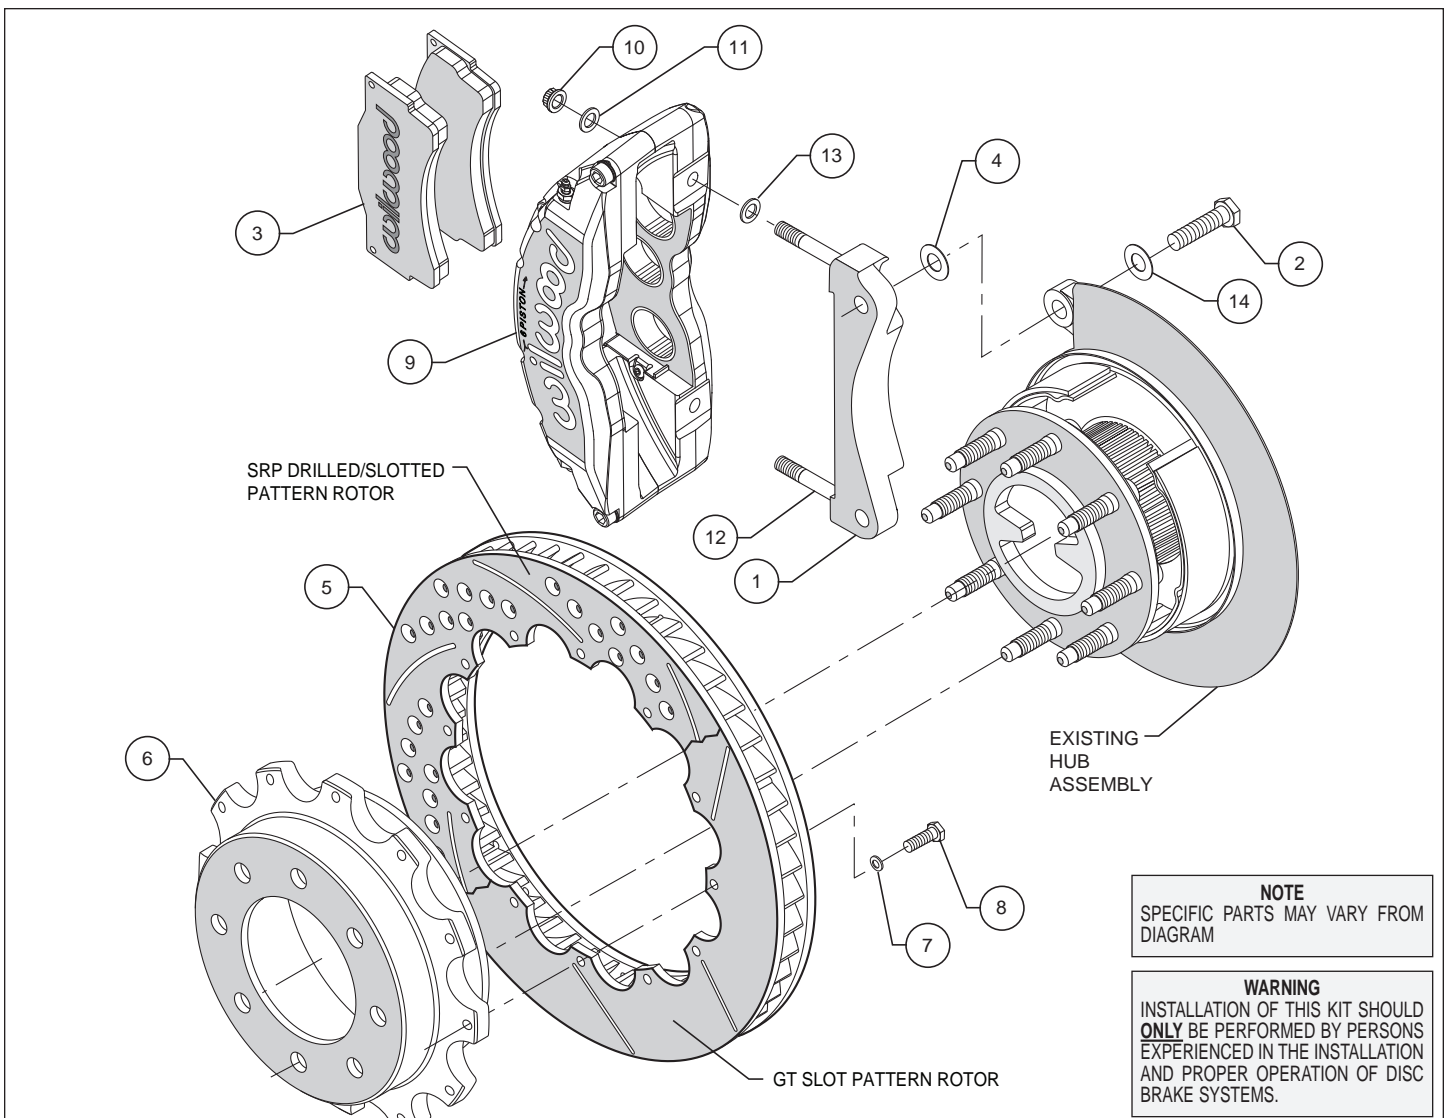
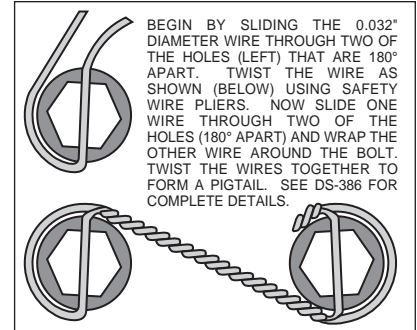

Figure 1. Typical Installation Configuration
Figure 3. Safety Wire Diagram
- The caliper mount bracket assembly (1) should be installed first with clean, dry threads on the mounting bolts (2). Install the bracket by sliding bolt (2) through washer (14) from the rear side of the hub through the OEM caliper mounting bracket ears, then through an additional shim washer (4) and into the bracket (1). The bracket must tighten squarely against the outboard side of the caliper mount bosses on the upright. Inspect for interference from casting irregularities, machining ridges, burrs, etc. Use one shim (4) between the bracket and upright during initial trial fitting. Later, after the caliper, pad, and rotor alignment have been checked, and any necessary shims have been put in place, the mounting bolt threads (2) should be coated with red *Loctite*® 271 and torqued to 95 ft-lbs.
- Attach the rotor (5) to the hat (6) using bolts (8) and washers (7) as shown in Figure 1. Using an alternating sequence, remove bolts one at a time, apply red *Loctite*® 271 to the threads, and torque to 198 **in-lbs**. Safety wire the bolts using standard 0.032 inch diameter stainless steel safety wire as shown in Figure 3. Please refer to Wilwood's data sheet DS-386 (available at www.wilwood.com/Pdf/DataSheets/ds386.pdf) for complete safety wire installation instructions.
- Lubricate caliper mounting studs and nuts with lightweight oil. Install one shim (13) over each stud (12) on the radial mount bracket (1). Slide the caliper (9) in place over the studs and rotor and install the washers (11) [up to 4 may be required on each side to keep the lock nut from bottoming out on the stud], and lock nut (10) to hold the caliper in place. The caliper bleed screws should be pointing up. Snug the lock nuts (10) and check that the rotor (5) is centered in the caliper (9). Add or subtract .029" shims (4) as necessary between the caliper mount bracket and the caliper mount bosses on the upright assembly to center the caliper.
- Remove the two caliper center bridge pad retainer bolts, nuts, and tubes from the caliper. Slide the brake pads (3) into place. They should install easily without interference. Check that the outside radius of the brake pad is aligned with the outside diameter radius of the rotor face. Add or subtract shims (13) between the caliper and mount bracket to gain the proper alignment. Reinstall the two center bridge pad retainer tubes, bolts, and lock nuts. The locknut should be snug without play in the bolt or tube. Be cautious not to over tighten.
- Once all clearances have been checked, remove the wheel, caliper and rotor from the axle flange. Secure the caliper mounting bracket (1) to the axle flange body with bolts (2) while coating the threads with red *Loctite*® 271. Torque the bolts to 75 ft-lbs. Reinstall the rotor and again use several lug nuts to hold it in place. Reinstall the caliper, torque the caliper nuts (10) to 47 ft-lbs.